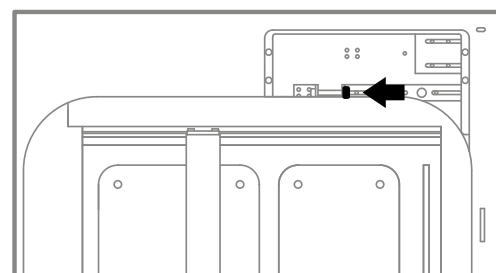

Fig. 12.74 Screw the marked bolt with a torque wrench.
12. Through the inspection opening on the right side of the printer tighten the bolt marked with a torque wrench (fig. 12.74). Tighten the cord for a value of 10 Ncm.